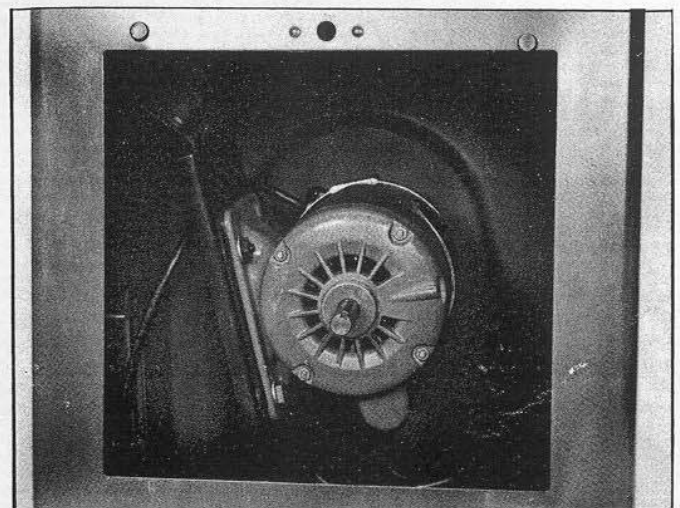

Fig. 7
4. Assemble the motor to the motor mounting plate, as shown in Fig. 7, using the four carriage bolts, flat washers and square nuts. Consult your Rockwell Dealer or Catalog for the recommended motor for use with your saw.